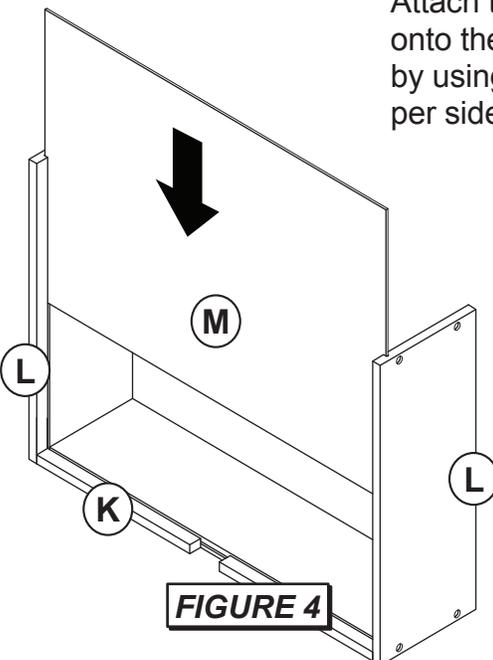

FIGURE 4
STEP 4 - Figure 4
ÉTAPE 4 - Figure 4